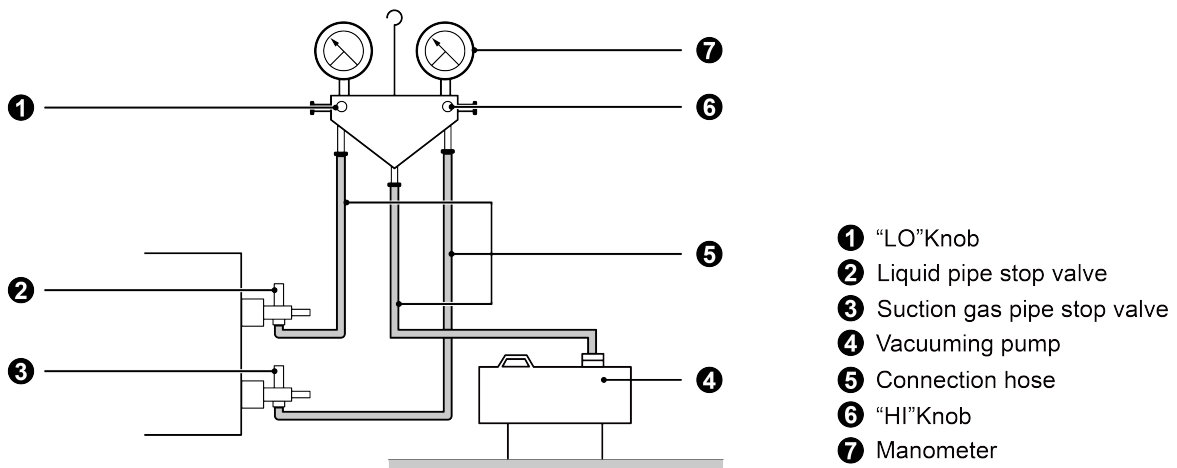

Fig.41
- (1) Confirm outdoor liquid and gas valves are closed. Air purging from the nozzle located on liquid and gas valves by vacuum pump. See Fig.41.